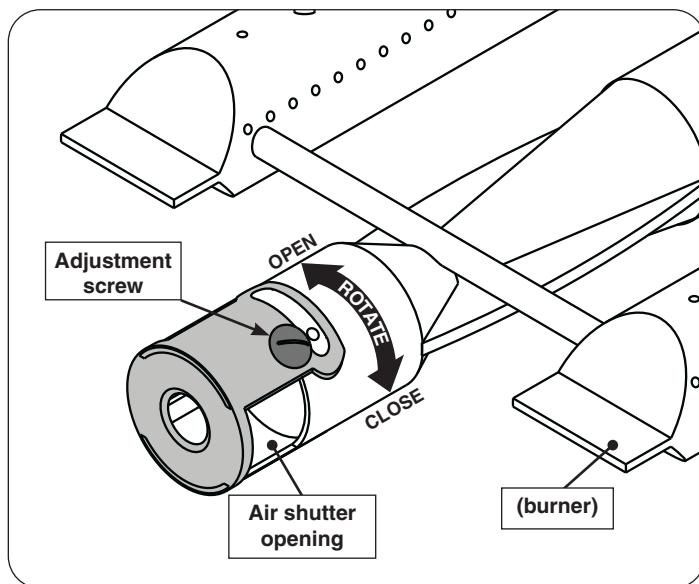

Fig. 36-2 Main burner air shutter adjustment detail
1. To adjust the air shutter, loosen the adjustment screw with a flathead screwdriver. Then rotate the shutter to open or close it. See Fig. 36-2 for details.